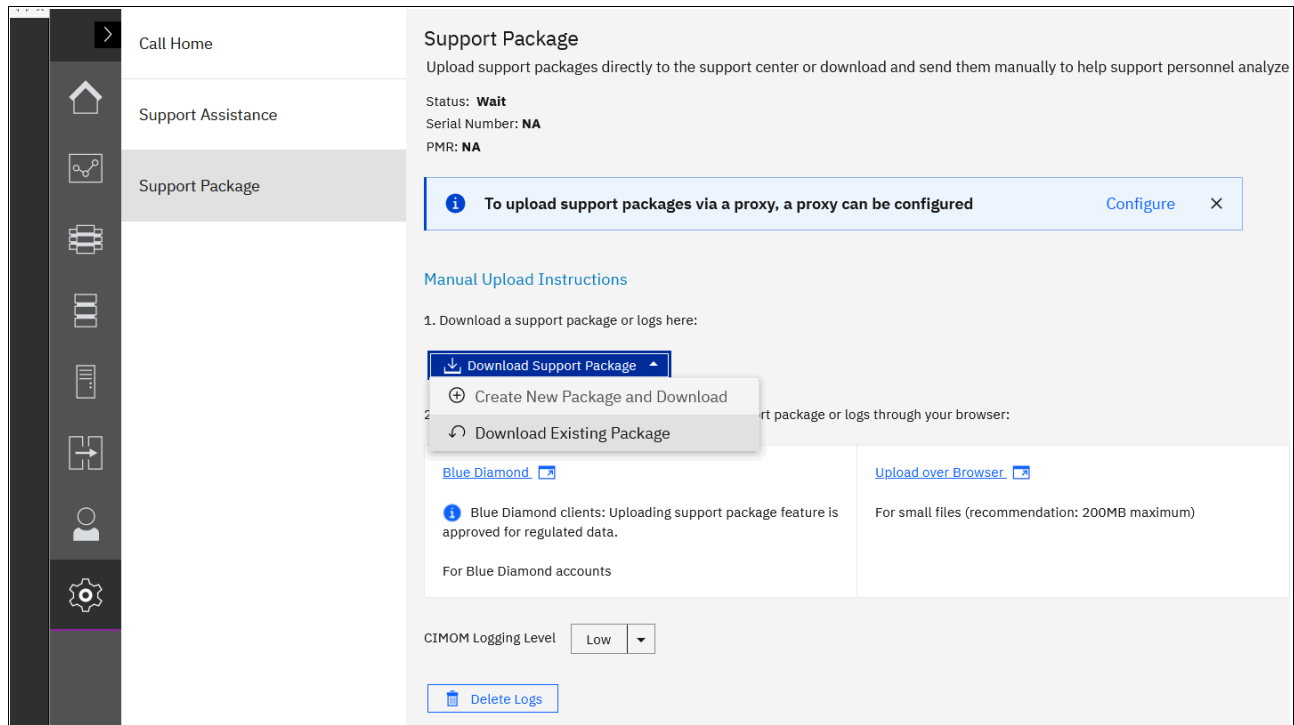

Figure 13-12 Download Existing Package
3. Click **Download Existing Package**, as shown in Figure 13-12.